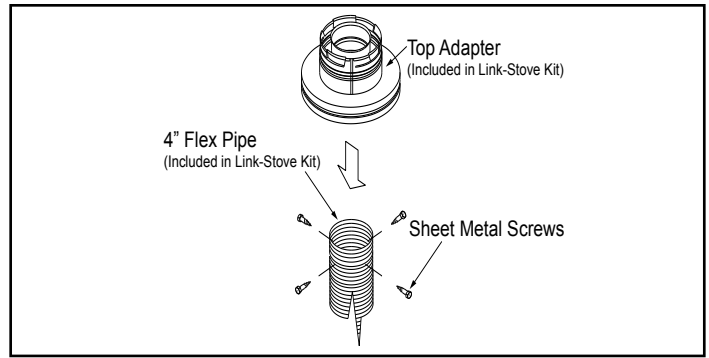

Figure 4.19
3. Connect the end of the flex pipe section to the underside of the top adapter, using four sheet metal screws. See Figure 4.19.
5. Connect the flex liner to the top adapter using three sheet metal screws. See Figure 4.19.